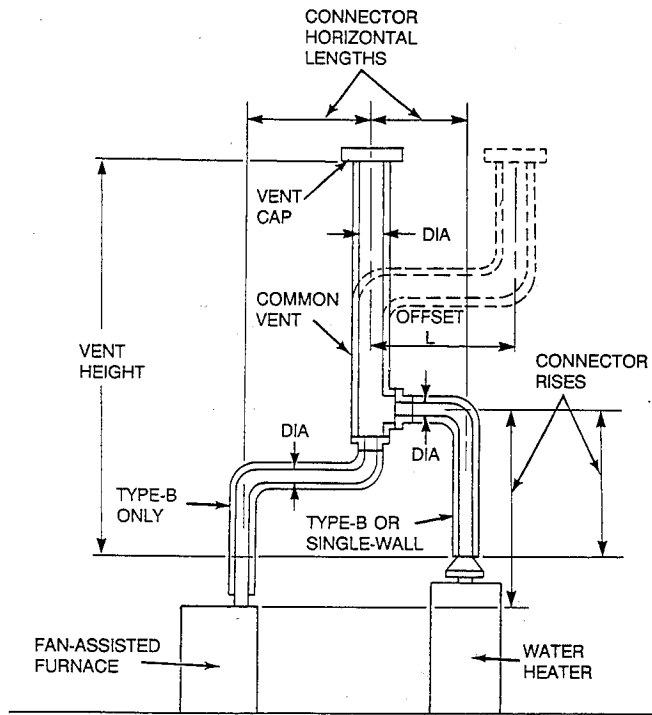

Fig. 1—Use With Tables 1, 2, 12 and 13 A91200
4. A vent or chimney may be offset as noted in the table below and as shown in Fig. 1, 2, 6, 7, or 8.
NOTE: Use as shown in Fig. 1, 2, 5, 6, 7, and 8.